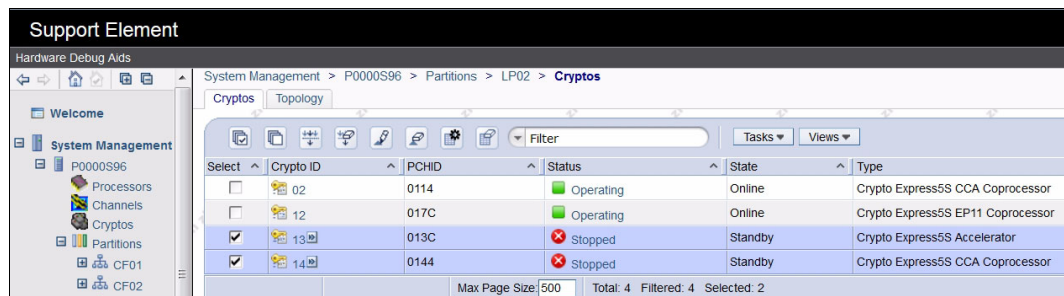

Figure 10-21 SE Crypto Service operations: Standby
4. In the contents of Cryptos page, select the Crypto IDs to be changed. Figure 10-21 shows that two CCA Coprocessors (02 and 14), one EP11 Coprocessor (12), and one cryptographic accelerator (13) are defined to Logical Partition LP02.